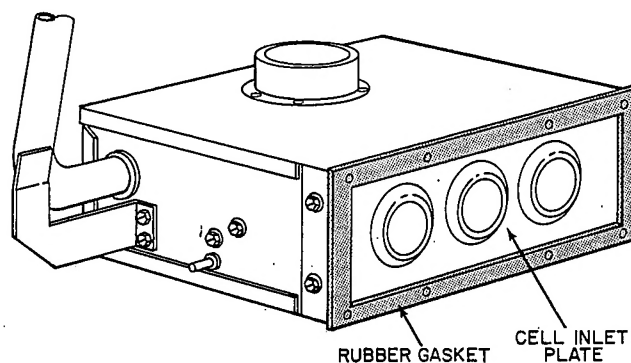

Fig. 10—Burner Enclosure
8. Check condition of gasket on cell inlet panel of burner enclosure. Replace gasket if necessary. (See Fig. 10.)